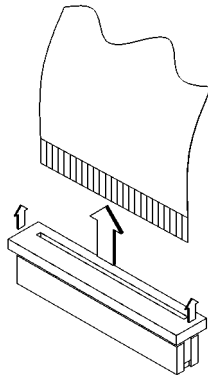

Figure 33
- 1 Disconnect the cable from the floppy disk drive, as shown in Figure 33.